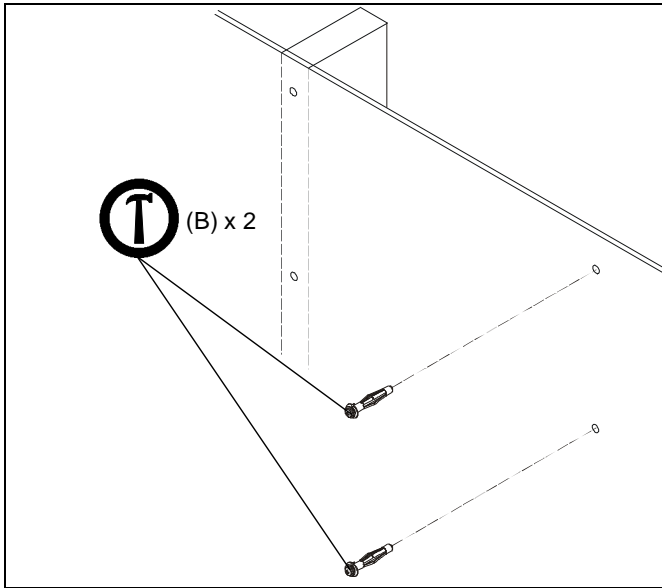
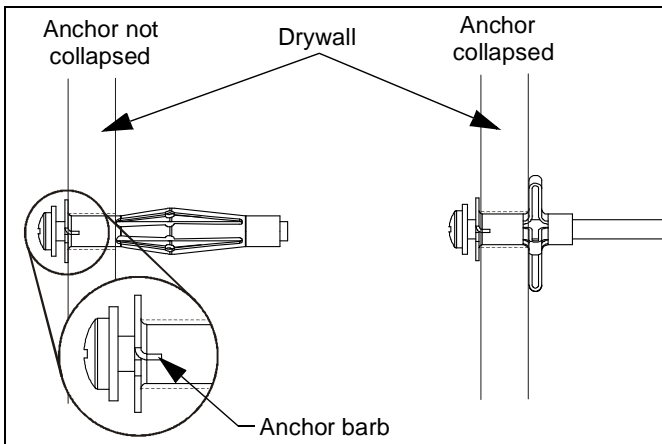
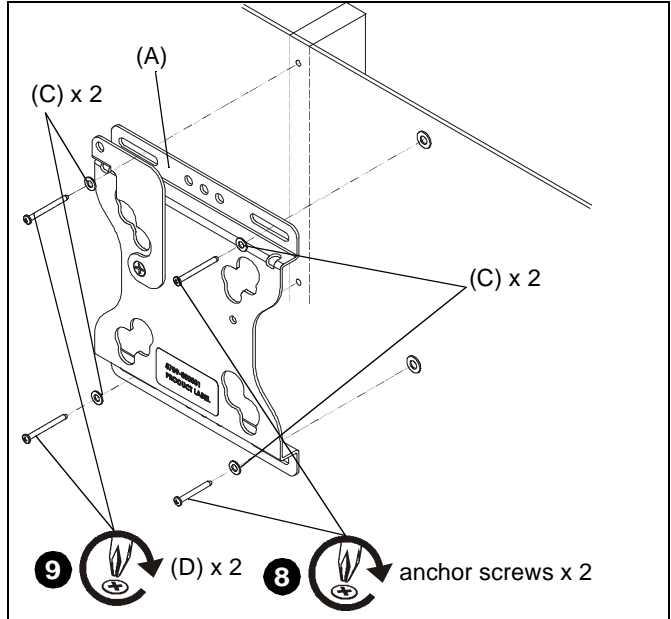

Figure 3
Figure 4
Figure 5
- Gently tap two anchors (B) into anchor holes. Anchor barbs should be fully engaged in drywall. (See Figure 3) and (See Figure 4)
- Using Phillips screwdriver, tighten anchor screw until anchor has fully collapsed against back side of drywall. (See Figure 4)
- Remove and retain anchor screws from anchors (B).
**NOTE:** Anchors (B) may come with small washers which may be left on the screw or discarded. These small washers do NOT replace #10 washers (C).
- Insert anchor screws through two #10 washers (C), FSR assembly (A) and install into collapsed anchors (B). (See Figure 5)
- Install two #10 x 2 1/2" Phillips tapping screws (D) through two #10 washers (C), FSR assembly (A) and into wood stud. (See Figure 5)